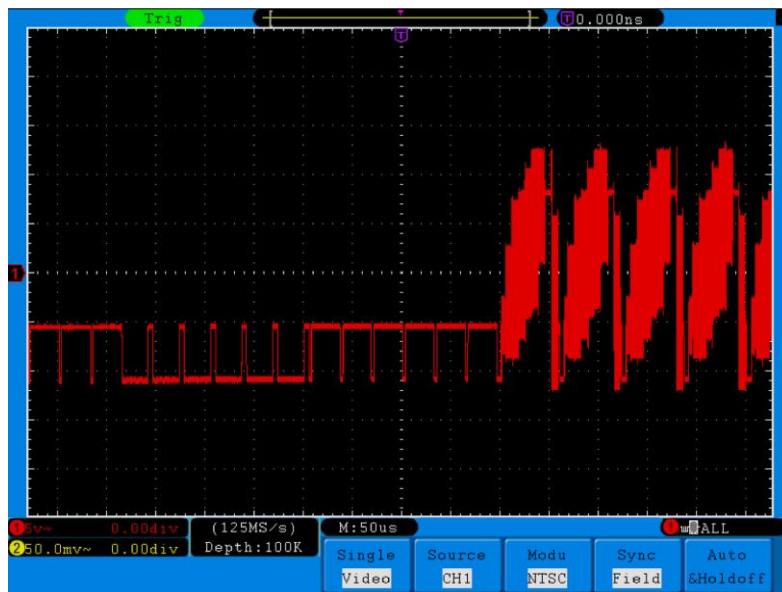

Fig. 84 Waveform Obtained from Video Field Trigger
11. Turn the **VOLTS/DIV**, **VERTICAL POSITION** and **SEC/DIV** knobs to obtain a proper waveform display (see **Fig. 84**).